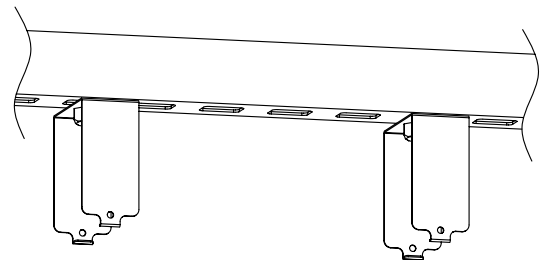

FIGURE 5
1. Mount the bracket on the rail or ceiling (Figure 5);